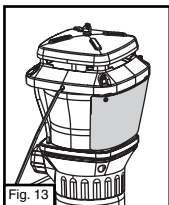

Fig. 13
■ Reflecting position. Bottom tab rests inside lantern frame. (Fig. 13)